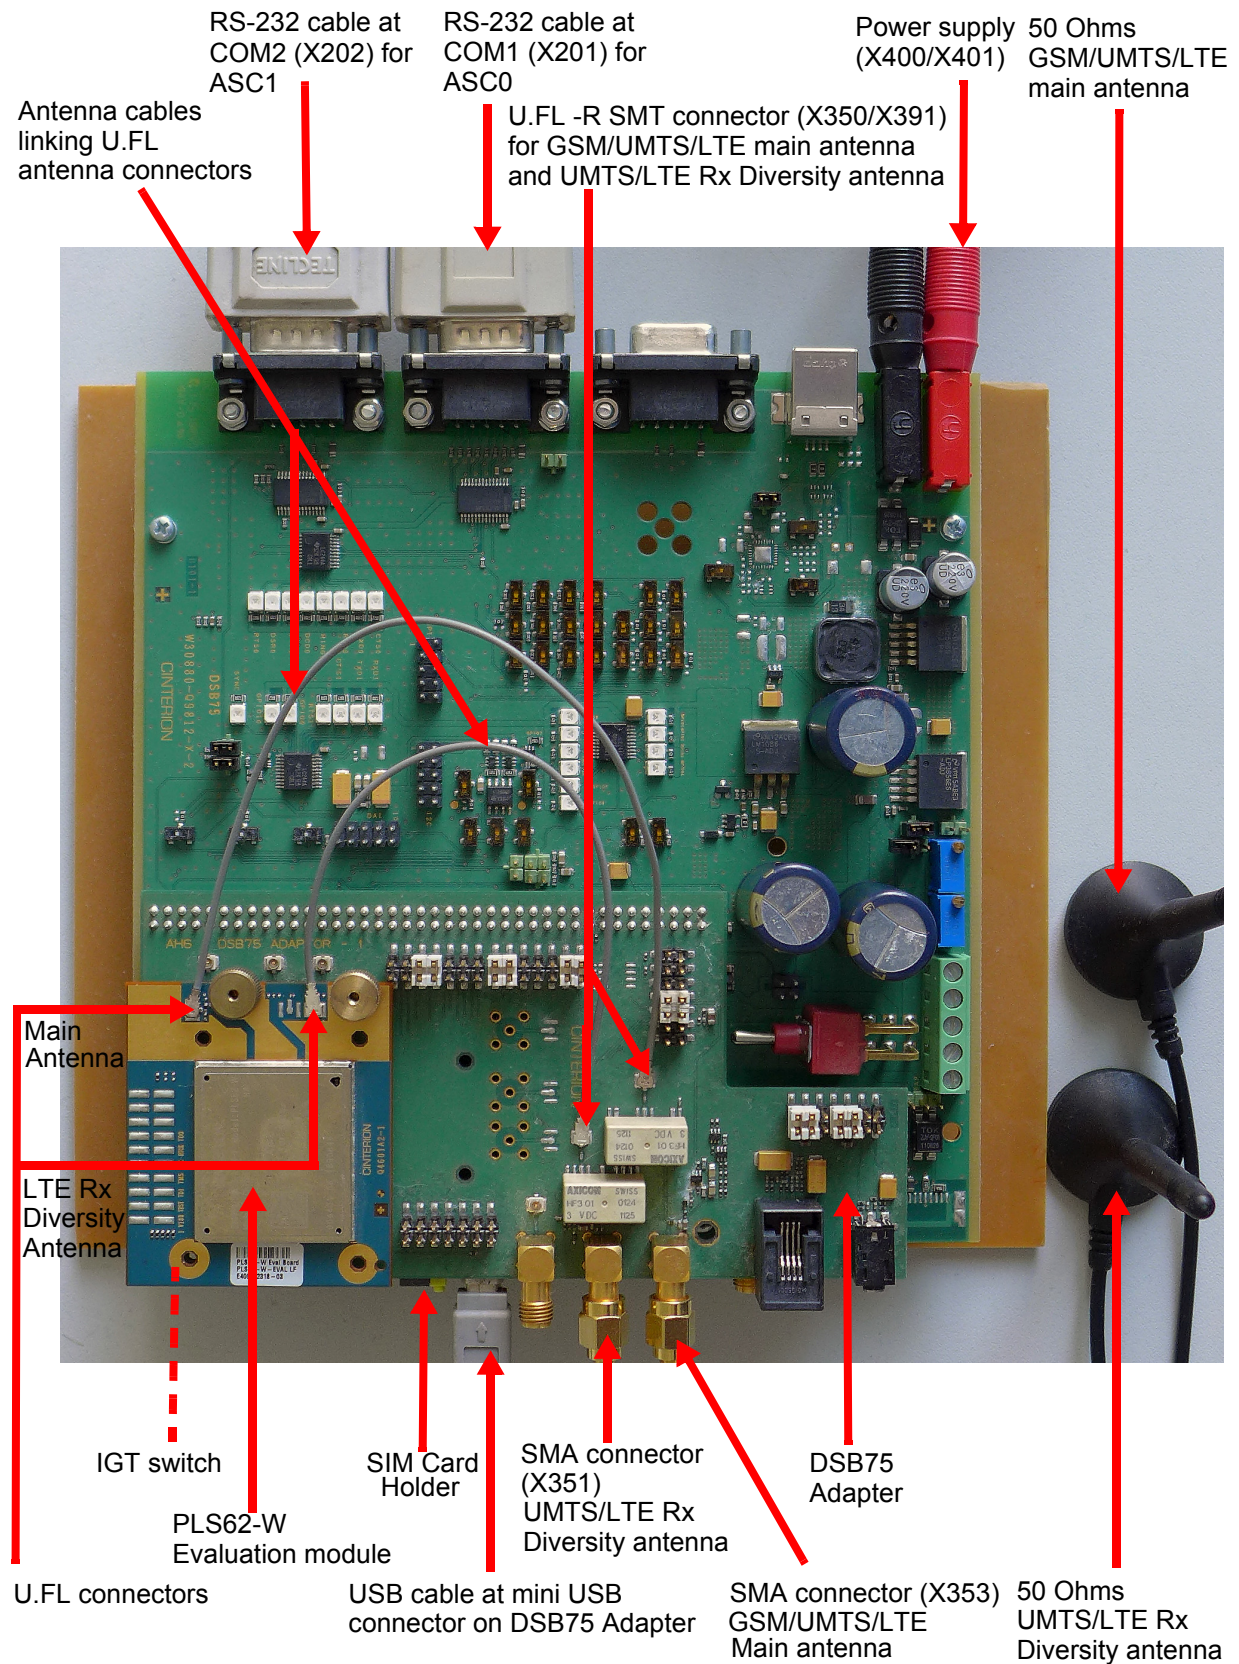

Figure 2: Module mounted onto DSB75 Adapter and connected to DSB75
To properly connect the PLS62-W evaluation module and all accessories to the DSB75 please complete the steps listed below. The complete setup with the evaluation module mounted onto the DSB75 Adapter and the DSB75 Adapter connected to the DSB75 is shown in Figure 2.
- Press the ignition switch S421 on the DSB75. The ignition switch is located on the component side of the DSB75 as shown in Figure 2.